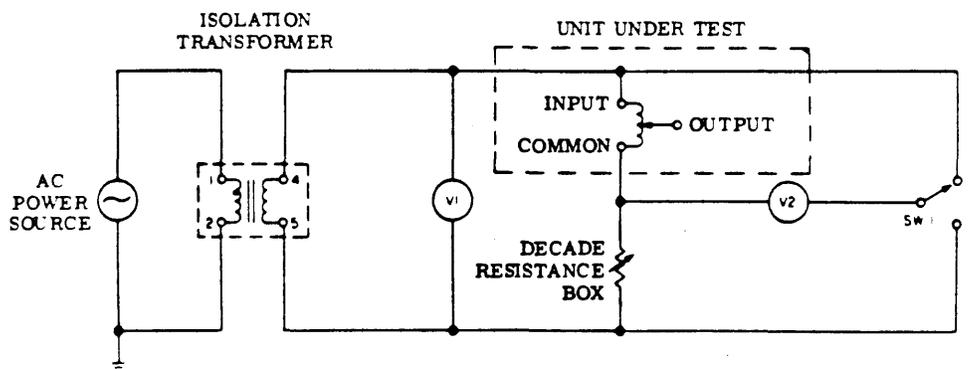

Figure 5-1. Impedance Test Setup
- a. Connect unit into test setup as shown in figure 5-1.